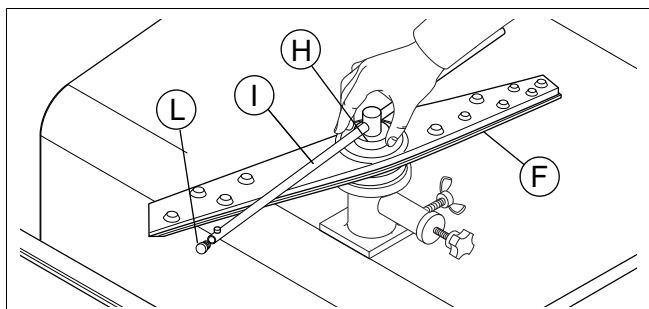

Figure 25 Rotating wash arms and rinse arms
- Remove the upper and lower wash arms "F" and rinse arms "I", undoing the ring nut "H" (Figure 25).
- Unscrew plugs "L" (Figure 25) from the rinse jets.